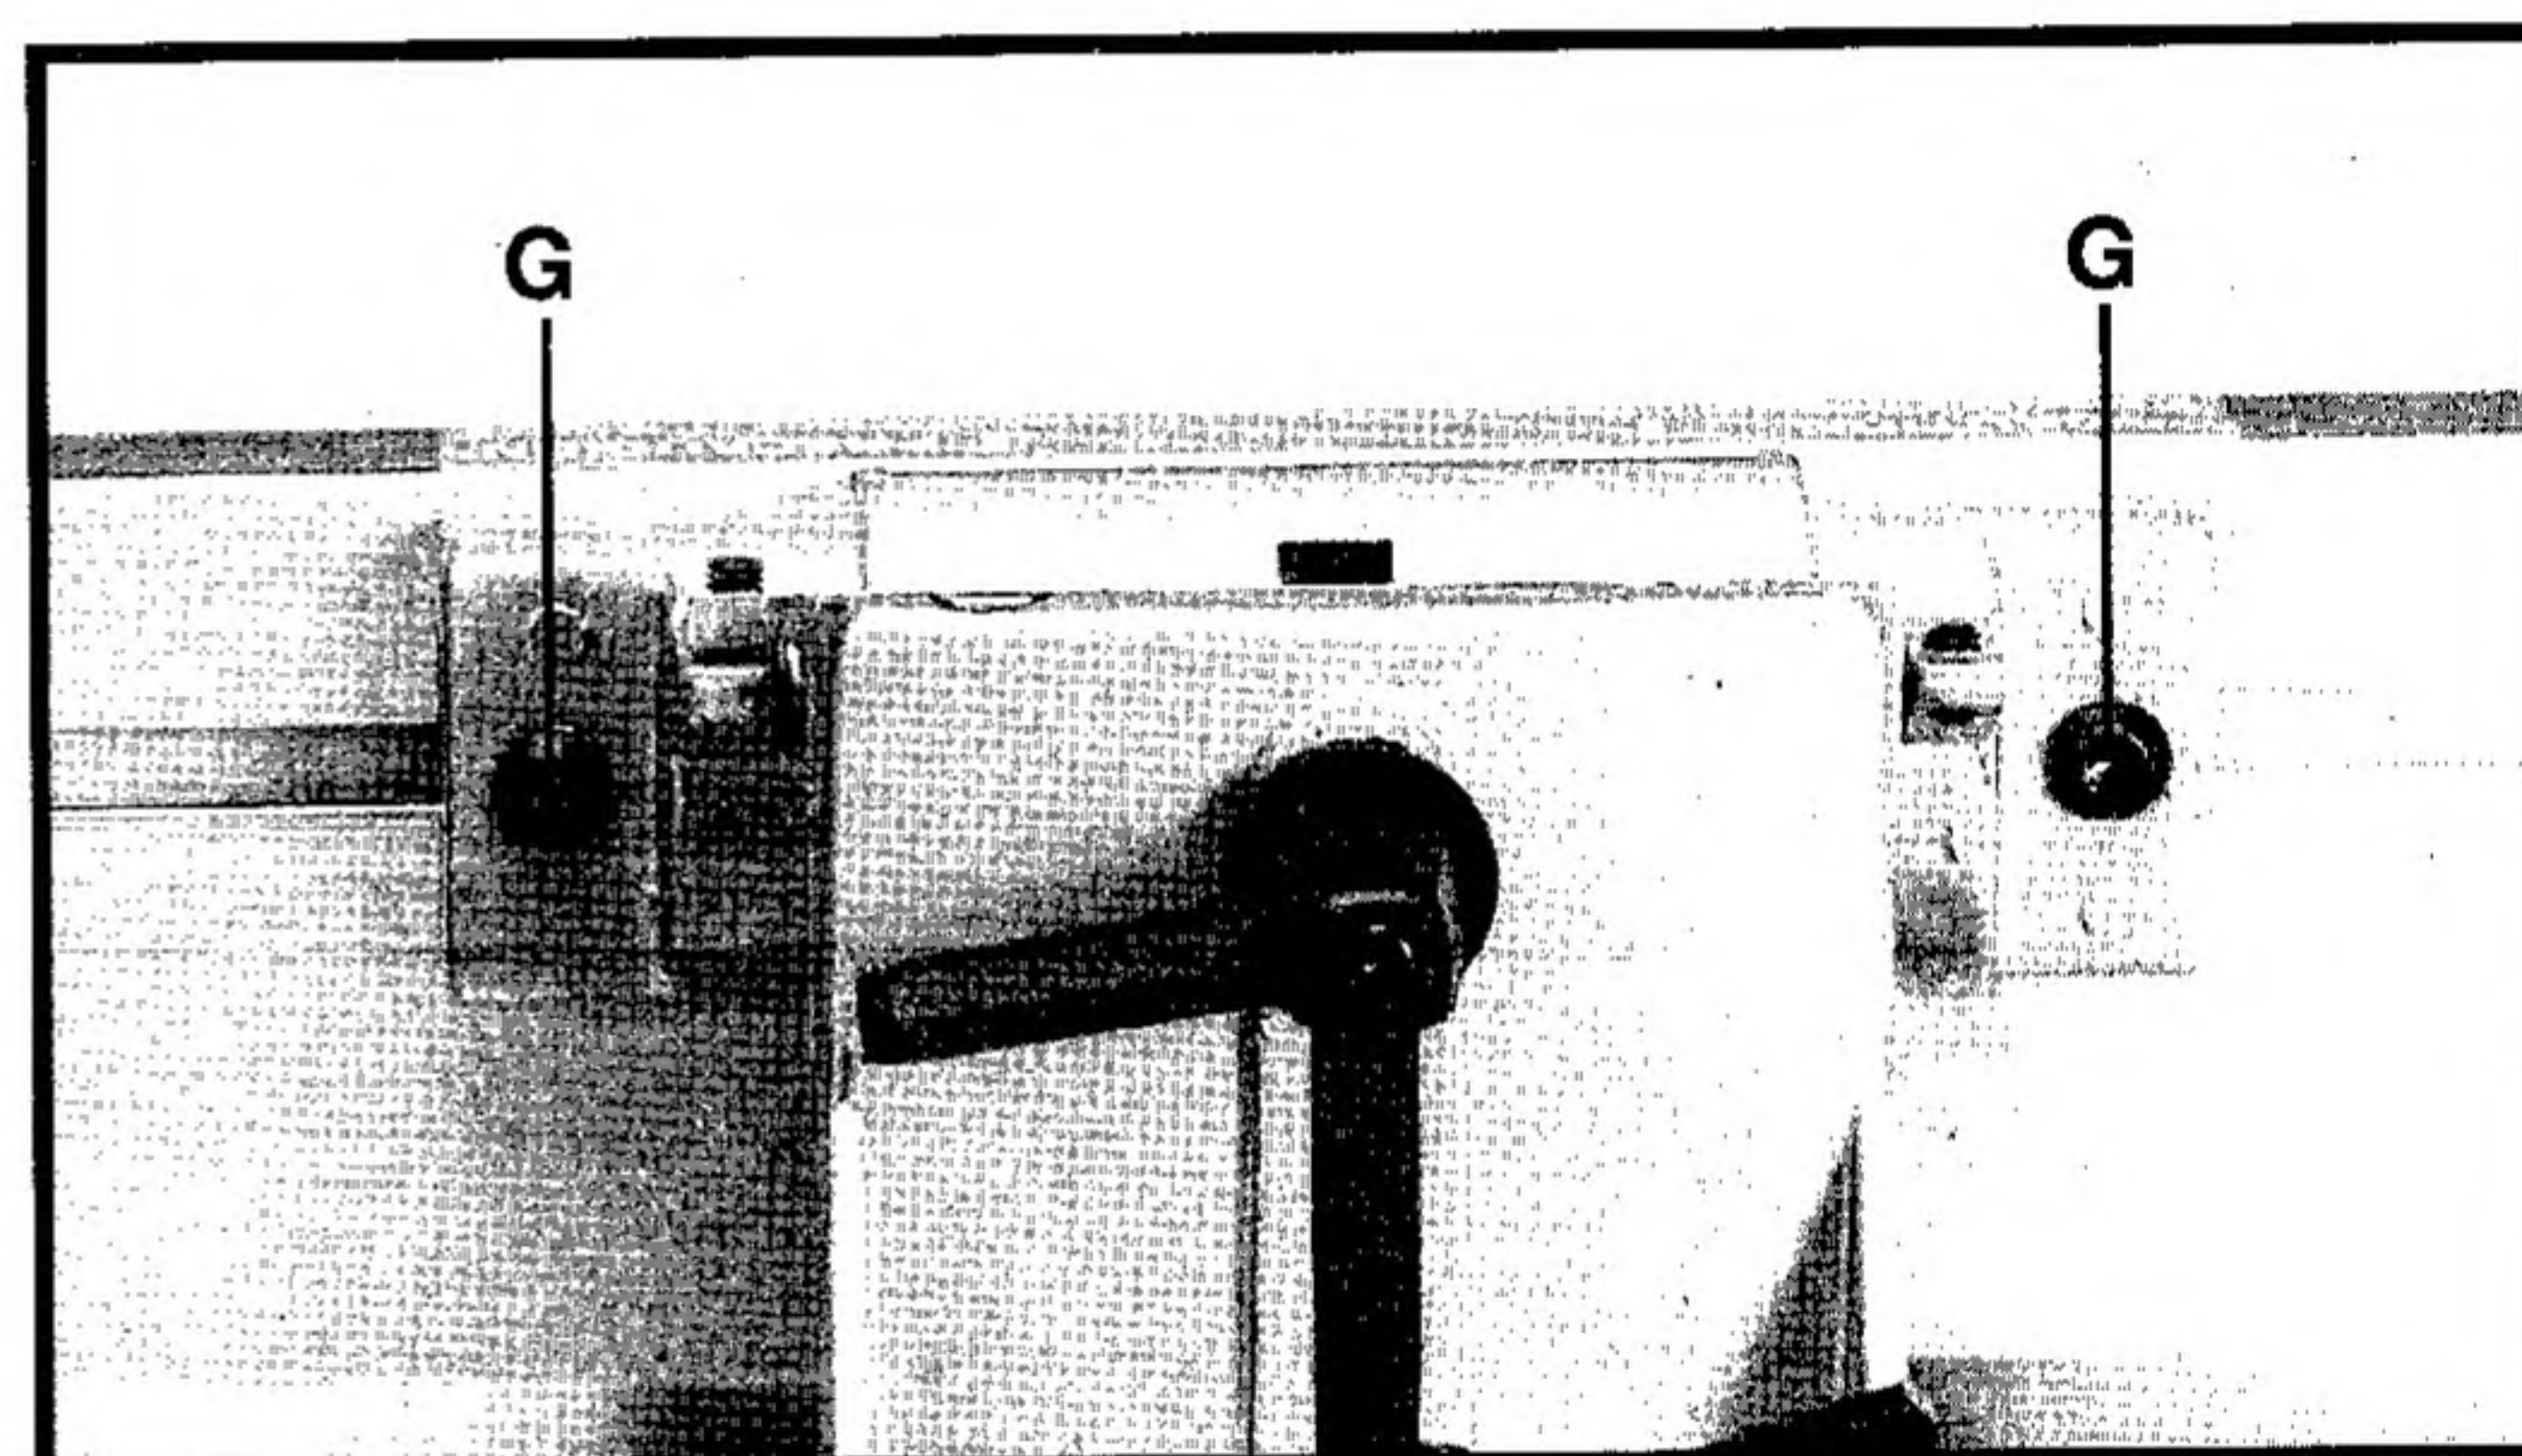

Fig. 12
6. Tighten two screws (G) Fig. 12 using included hex wrench.